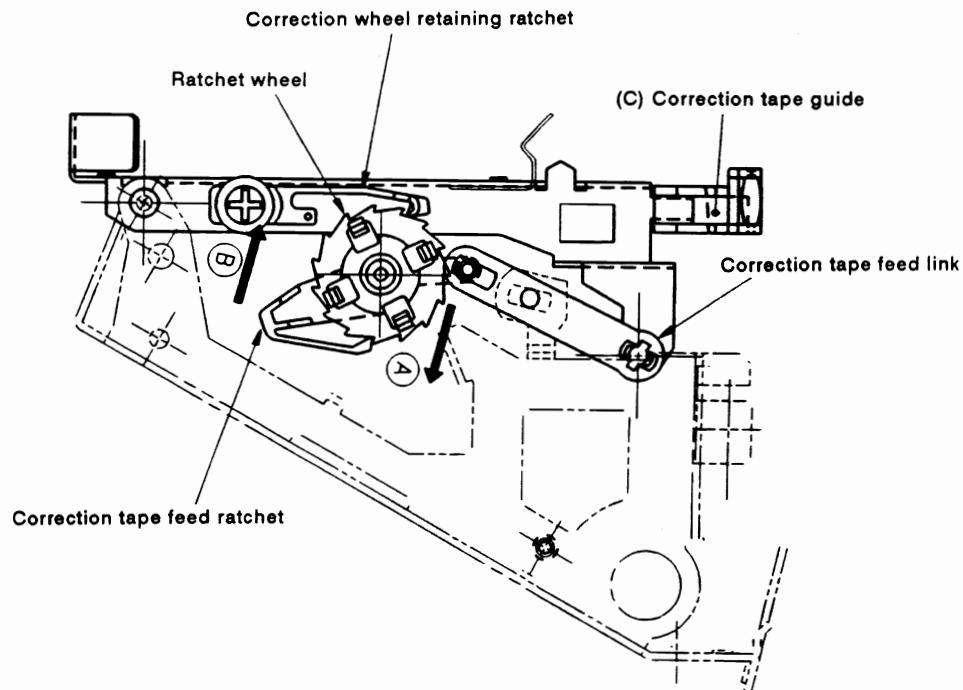

Fig. 3.2
- (3) The correction cam follower unit, which is mounted on the ribbon cassette support, has its shaft fitted in the groove of the correction cam. When the clutch collar rotates half a turn, the clutch armature stops the rotation. At this point, the correction cam follower unit fixed to the correction cam comes up to the apex of the cam and the ribbon cassette support is raised to its fully raised position, which brings the correction tape up to its printing position.
- (4) The hammer strikes the selected spoke four times against the correction tape to erase the printed character, while the ribbon cassette support remains at its raised position.
- (5) After the correction hammer has struck four times, current flows to the correction solenoid once more which causes the clutch armature, correction cam, and ribbon cassette support to return to their home positions.
NOTE: To check the vertical position of the correction tape, first print underlines "—" with a correctable film ribbon. Then, erase underlines with a lift-off correction tape. The removed underlines should be 0.5 to 1.5 mm above the lower edge of the lift-off correction tape. If not, adjust the ribbon position by bending the correction tape guide at the front of the ribbon cassette support up or down (part (C) in Fig. 3.2)
- (6) The correction tape is fed by the vertical movement of the ribbon cassette support.
The shaft of the correction tape feed link is supported by the carrier frame, therefore, raising the ribbon cassette support moves the correction tape feed link in the direction indicated by arrow (A) shown in Fig. 3.2. The correction tape feed ratchet, connected to the correction tape feed link, is caused to move in the direction indicated by arrow (B) and catches the next tooth of the ratchet wheel. The correction wheel retaining ratchet prevents the ratchet wheel from rotating backward. When the ribbon cassette support is lowered, the correction tape feed ratchet rotates the ratchet wheel to wind up the correction tape.